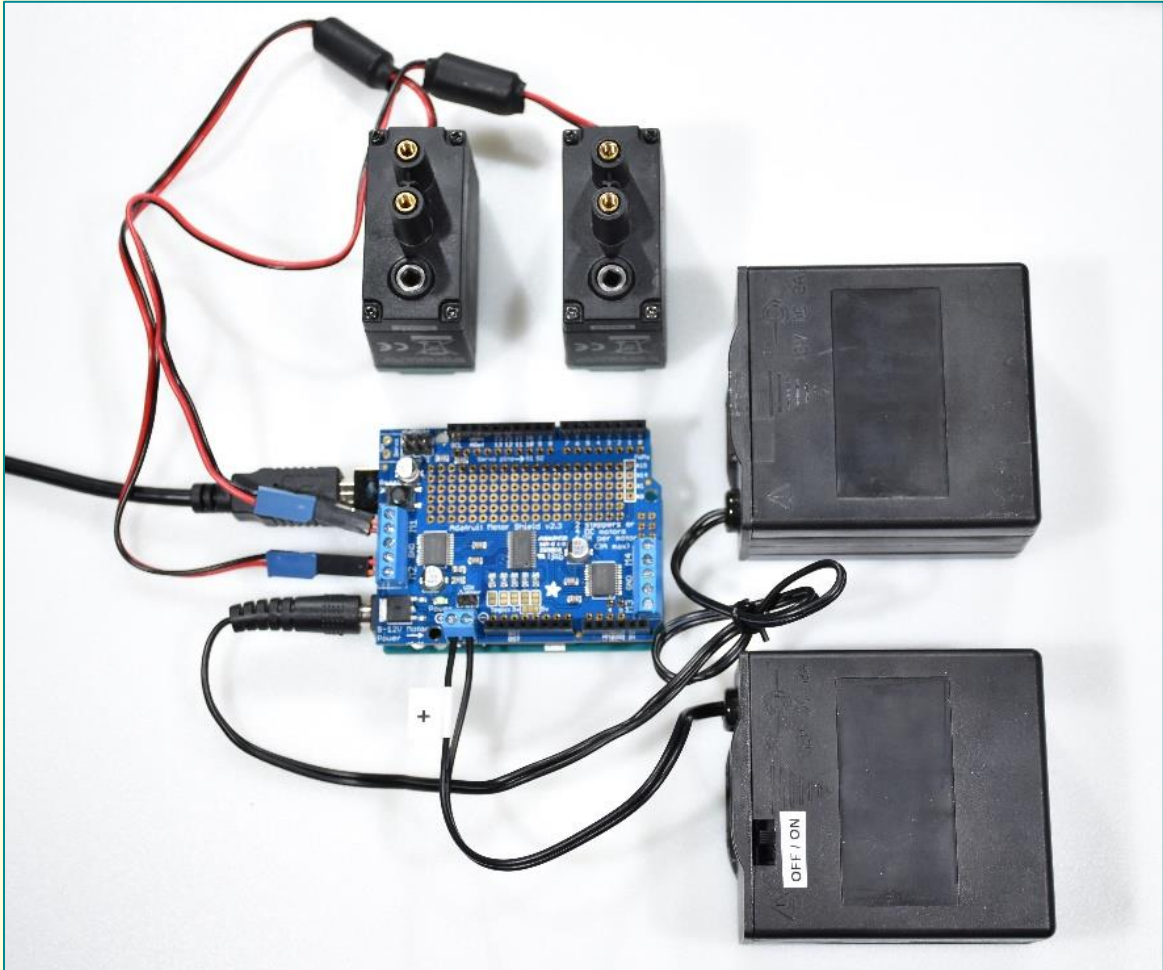

Figure 4-4. Overview of how to connect the motors and battery packs to use the Adafruit Motor/Stepper/Servo shield.
3. Do a final check to make sure that the motors and battery packs are connected as shown in Figure 4-4.